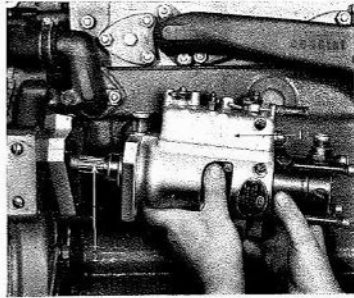

Fig. M.11.
4. Release the high pressure and low pressure fuel pipes and remove the fuel injection pump and quill shaft. Fig. M.11.